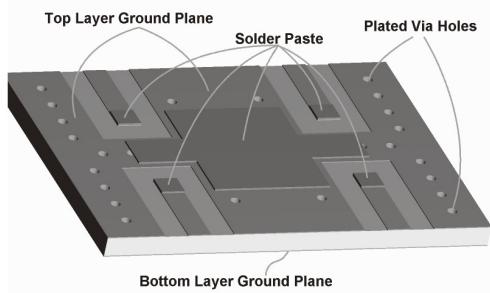

Figure 2: Solder Paste Application
**Solder Paste:** All conventional solder paste formulations will work well with Anaren’s Xinger II surface mount components. Solder paste can be applied with stencils or syringe dispensers. An example of a stenciled solder paste deposit is shown in Figure 2. As shown in the figure solder paste is applied to the four RF pads and the entire ground plane underneath the body of the part.